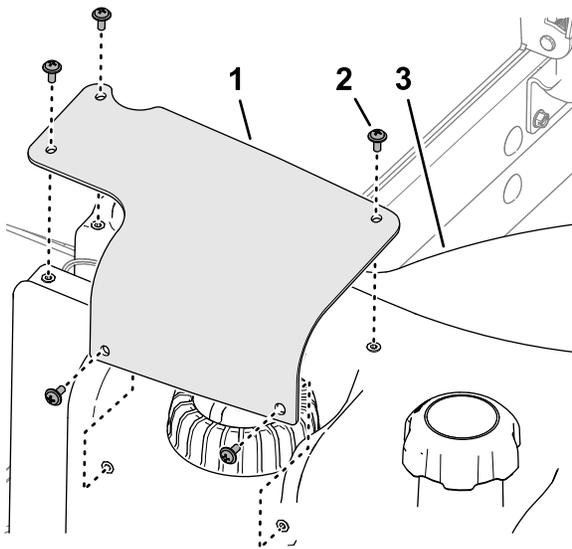

Figure 94
7. Align the holes in the fuel-sender cover with the holes in the fuel tank, and secure the cover to the tank with the 5 Phillips-head screws (Figure 94).